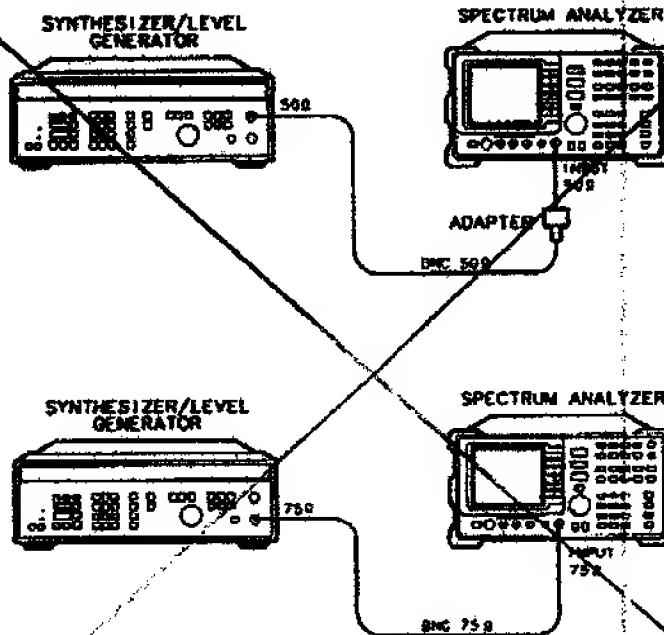

Figure 2-25. Frequency Response for 4 MHz Setup
17. Using a cable, connect the HP 3335A directly to the INPUT 50 $\Omega$ . [See Figure 2-25.]
(Option 001: Using a  $75\Omega$  cable, connect the HP 3335A from the  $75\Omega$  OUTPUT to the INPUT  $75\Omega$ . Set the HP 3335A 50- $75\Omega$  switch to the  $75\Omega$  position. See Figure 2-25.)